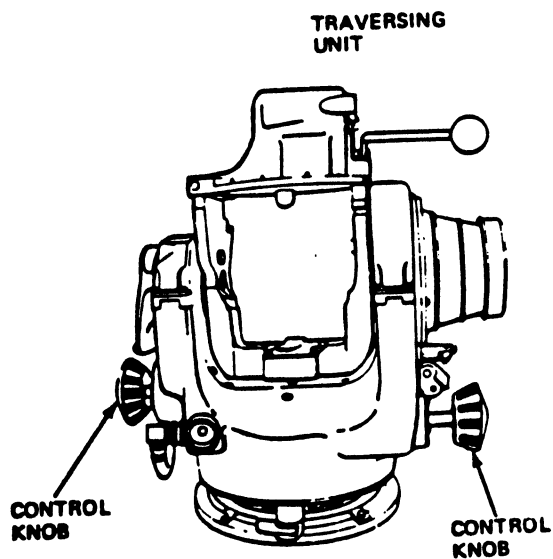

Fig 4-15. Control knobs (traversing unit).
Step 3. Turn the traversing unit from side to side until it locks in place, and turn the control knobs forward until the trunnion locks in place (fig 4-15).